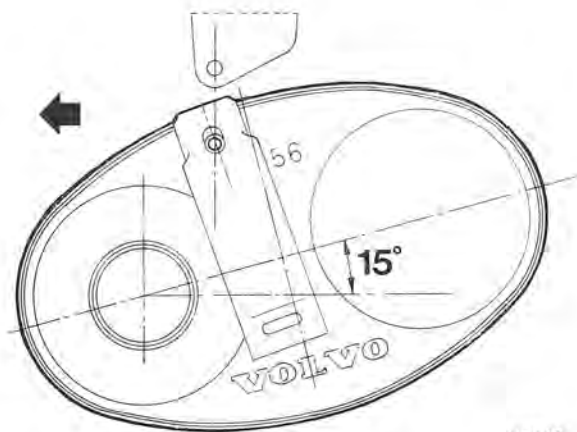

Fig. 2-148. Fit rear exhaust silencer.
19. Adjust the location of the rear silencer. This is done by turning the rear silencer and by moving the leading silencer on the leading pipe. The suspension pins for the rear silencer should be vertical to the body pins. The silencer should incline forwards (lower at the front than at the rear) 15° in relation to the horizontal, see Fig. 2-148.